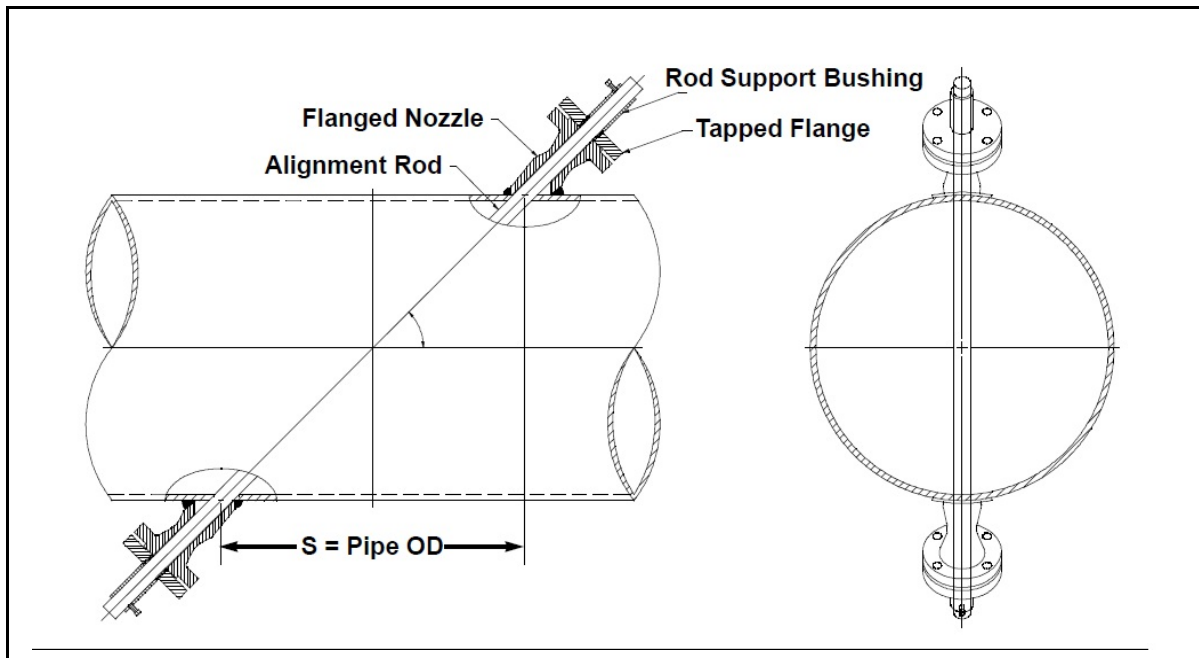

Figure 9: Flanged Nozzles for Cold-Tapping
**Note:** Two flanged nozzles are available for cold tapping ports for flanged transducers or PanAdapta plugs. The kit for the nozzles includes two tapped flanges to accept the bushings (see Figure 9 below).